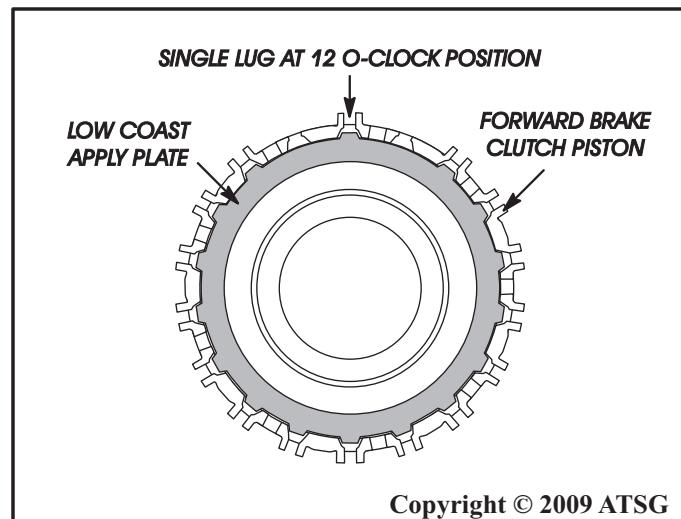

Figure 186
2. Check once again that the forward clutch piston is in the case properly, with the single lug at the 12-O-clock position, as shown in Figure 186.
Note: *Ensure that the single lug on the apply plate is at the 12-O-clock position, as shown in Figure 186.*